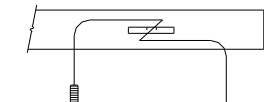

Figure 3
- Feed spacers and carriage bolts into position using the pull wires provided (both rails). Leave pull wire attached. Note: It is much easier if bolt and spacer are not engaged while inserting them into frame, refer to illustration. See Figure 3.